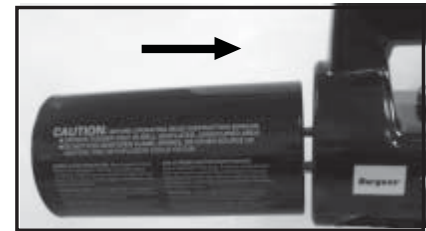

Figure 3
3. Attach barrel by positioning the prongs directly in line with the slots provided for them in the housing. Push the barrel firmly into place being careful not to twist or bend the prongs. **(See Figure 3)**